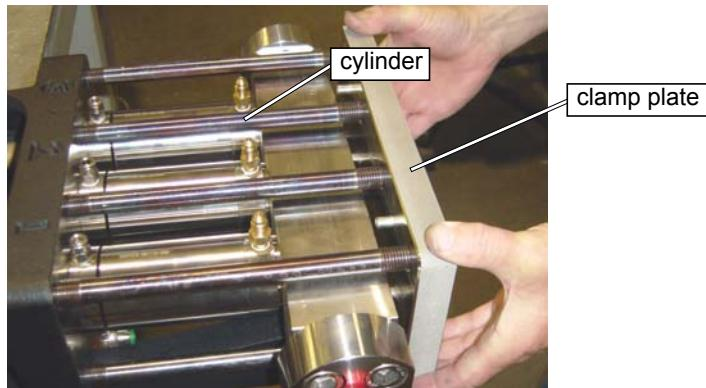

Figure 6-47
10. Install the **clamp plate** and two **nuts** on the **stud**s numbered 1 and 2 in Figure 6-47, using a generous amount of anti-seize compound on both the **stud threads** and the side of the **nuts** that face the **clamp plate**. Tighten the two nuts evenly until they are snug. An even gap of approximately 0.070" (1.78 mm) should remain between the end of the cylinders and the coolant housing assemblies. Install remaining Nuts hand tight, again using a generous amount of anti-seize on Stud threads and Nut faces.